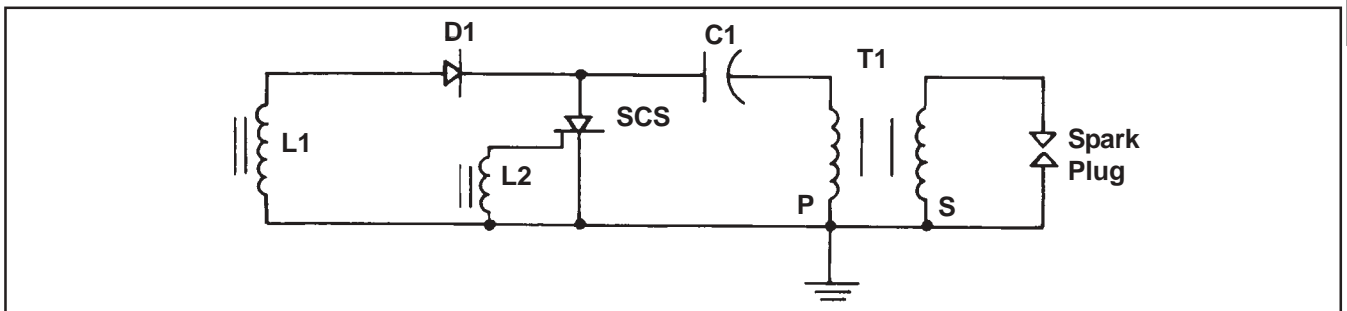

Figure 8-5. Capacitive Discharge Ignition Module Schematic.
**Operation:** The ignition module for this system operates in the same fashion as the fixed timing module, except the trigger circuit for the semiconductor (L2, Figure 8-5) is replaced by the spark advance module (Figure 8-7).
The pulse generated by the input coil of the ignition module (L1, Figure 8-5) is fed to the input of the conditioning circuit. The conditioning circuit shapes this pulse, putting it in a useable form for the additional circuits. This pulse starts the charge pump, which charges a capacitor in a linear fashion that can be directly related to the engine speed. At the same time the pulse resets the delay circuit for length of the pulse width. The comparator is off during this period and no output is generated. As soon as the original pulse drops back to zero, the capacitor in the delay circuit begins to charge.
When the charge on the delay capacitor exceeds the charge on the charge pump capacitor the comparator changes state, activating the pulse generator. This pulse turns "ON" the CD ignition module semiconductor. Energy is then transferred to the secondary of the output transformer (T1, Figure 8-5). The high voltage pulse generated here is delivered to the spark plug, causing arcing of the spark gap and igniting the fuel-air mixture in the combustion chamber. As the trigger pulse is generated, all associated circuits are reset, their capacitors discharged. The longer it takes the delay circuit to surpass the charge pump capacitor voltage, the later the trigger pulse will occur, retarding the timing accordingly.